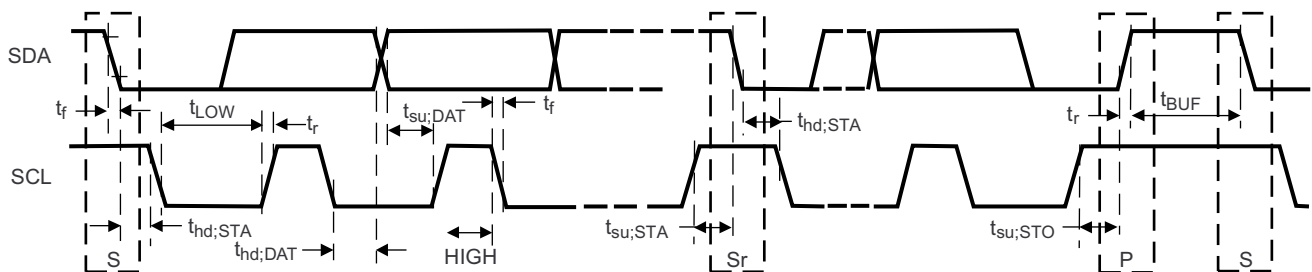
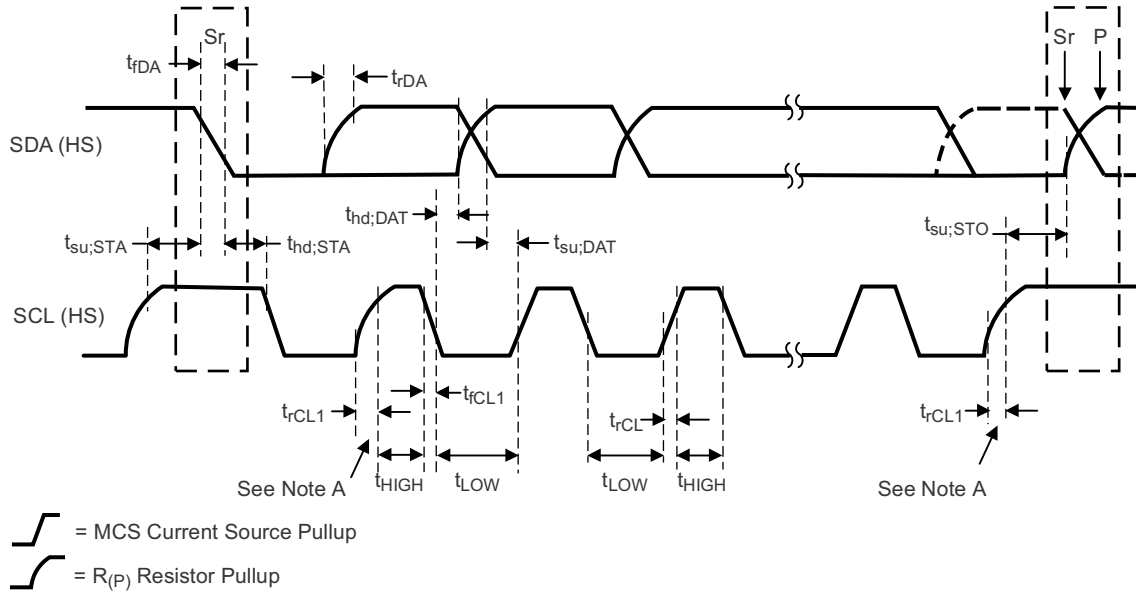

图 5-1. Serial Interface Timing Diagram for F/S Mode
图 5-2. Serial Interface Timing Diagram For HS Mode
Over operating free-air temperature range⁽¹⁾⁽²⁾⁽³⁾⁽⁴⁾. For the timing diagram for fast and standard (F/S) modes, see Figure 5-1. For the timing diagram for high-speed (HS) mode, see Figure 5-2.
Over operating free-air temperature range⁽¹⁾⁽²⁾⁽³⁾⁽⁴⁾. For the timing diagram for fast and standard (F/S) modes, see 图 5-1. For the timing diagram for high-speed (HS) mode, see 图 5-2.